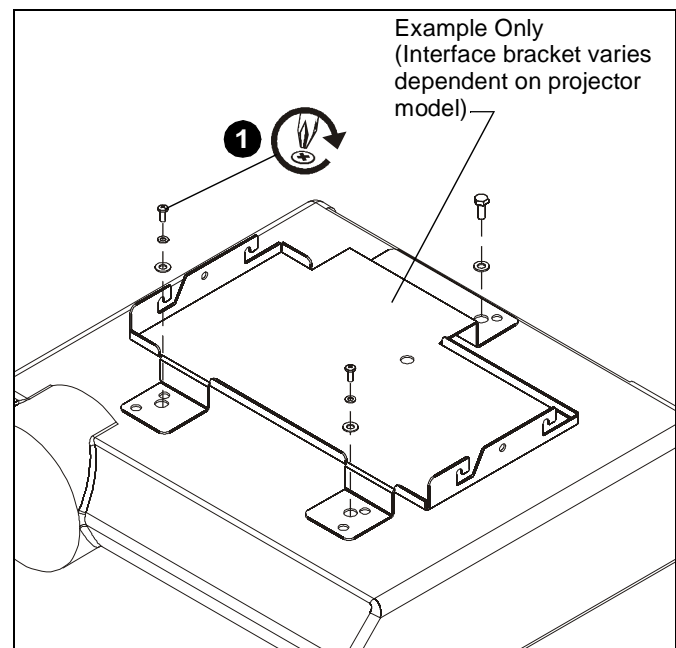

Figure 2
1. Secure interface bracket to VCM using installation instructions and hardware provided with interface bracket. ((Siehe Abb. 2)